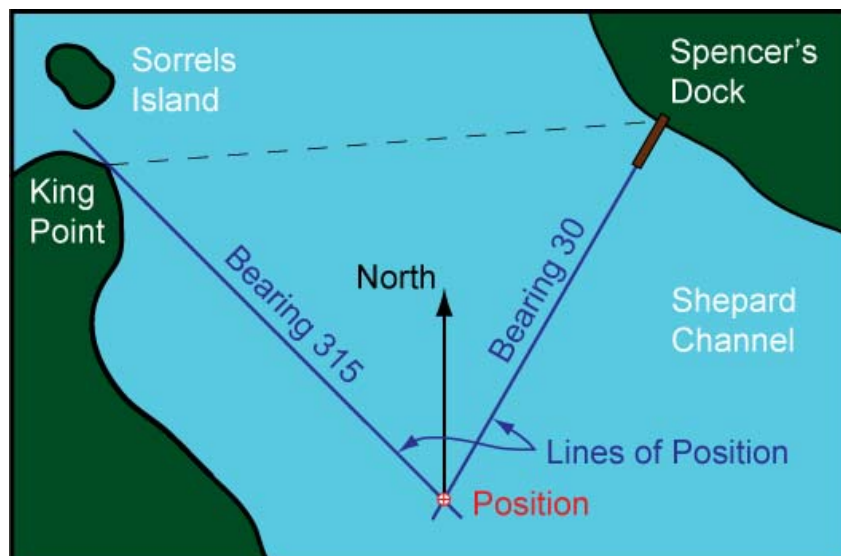

Figure 11: Triangulation on a Map
- By knowing two known features and establishing lines through each of these known features (lines of position), you ascertain your position at the intersection of the two lines (Figure 11).